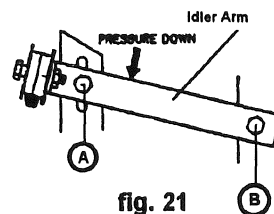

fig. 21
- Loosen the two bolts A & B (fig. 21) holding the idler adjuster arm (item 26, pg. 16 or fig. 21). Using your hand or foot, press down on the idler arm until proper tension is obtained. Retighten bolts A & B (fig. 21).